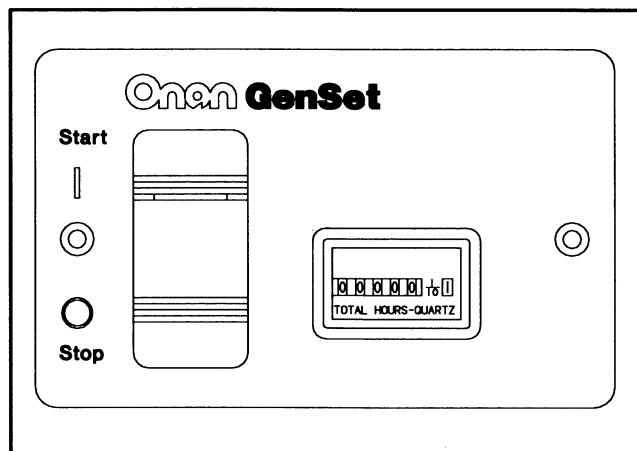

FIGURE 5. START/STOP SWITCH WITH TIME METER
- Remote panel with start/stop switch, indicator lamp, and running (elapsed) time meter (see Figure 5).